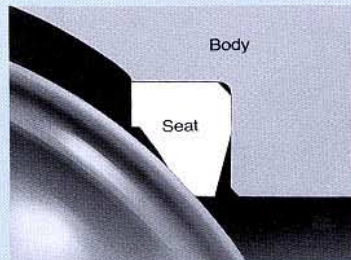

Fig. 3 (Before fire)
- Contact between ball and valve shell (Fig. 3 & 4)